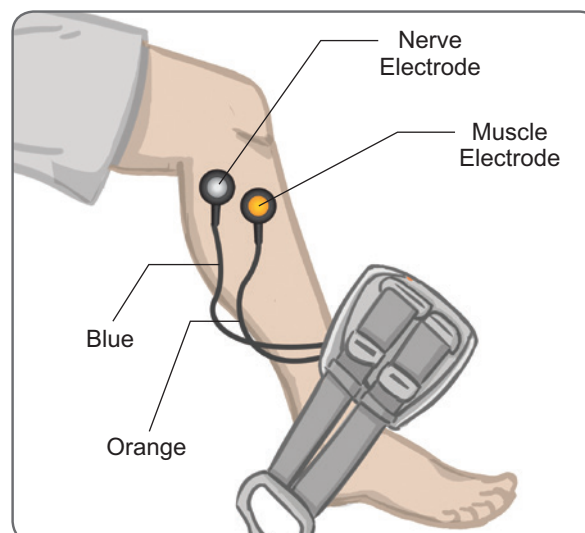

Figure 8-4: Fitting Cable Connected
3. Connect the orange ends of the fitting cable to the muscle electrode base and the orange FS Cuff plug hole. See Figure 8-4.
4. Connect the blue ends of the fitting cable to the nerve electrode base and the blue FS Cuff plug hole. See Figure 8-4.
5. Place the lower leg FS Cuff next to the patient's foot. See Figure 8-4.